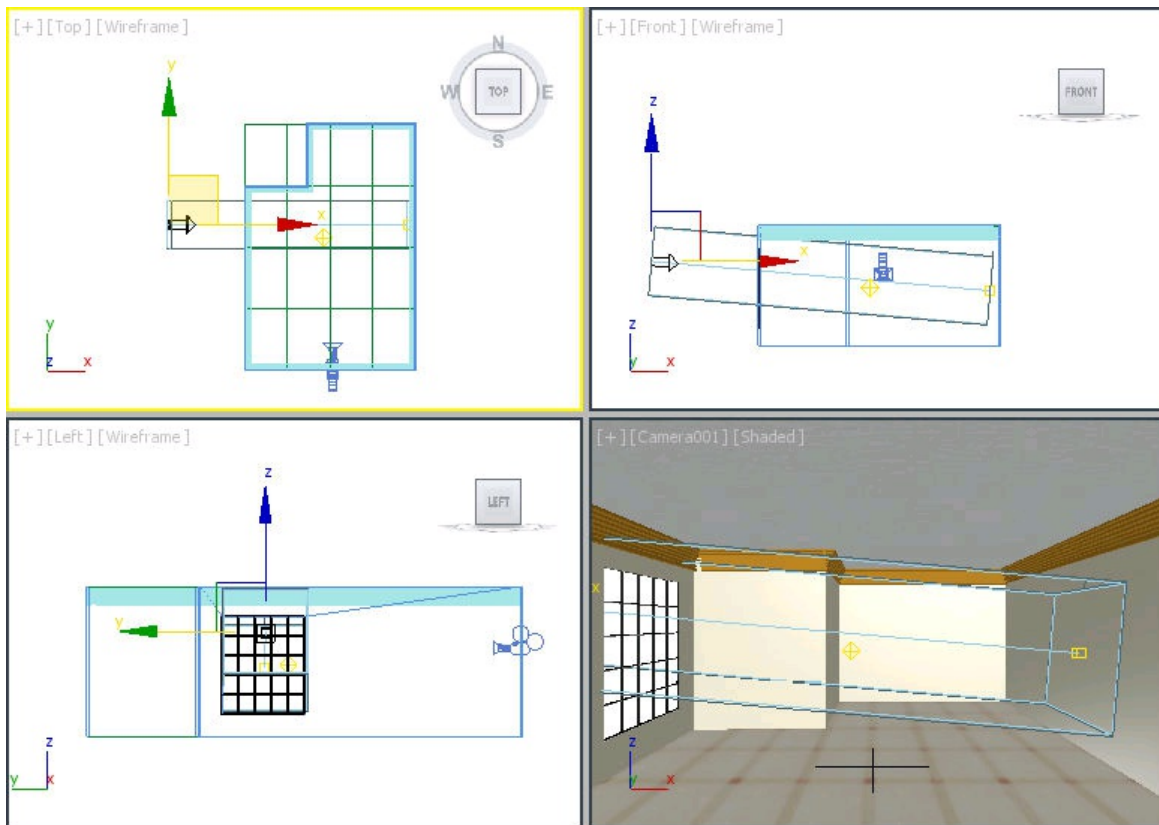

Figure 13-67 Alignment of the Direct001 light in viewports
13. Align *Direct001* light in the viewports to cover window, as shown in Figure 13-67.